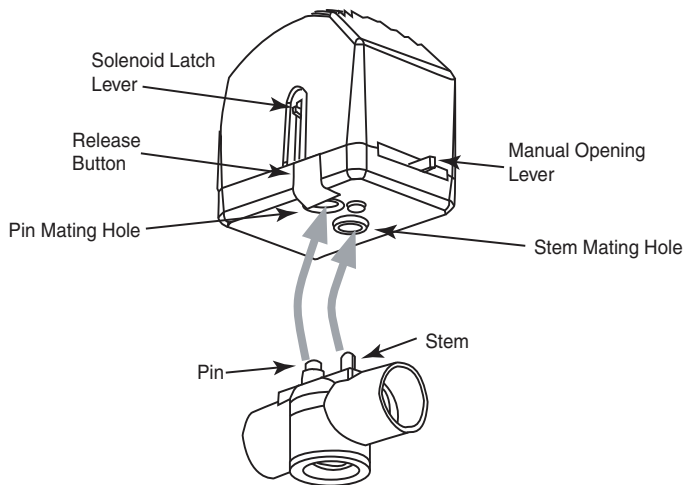

Figure-9 Three-Way Spring Return Valves.
2. With the valve in the mid-position, latch the solenoid by placing the manual solenoid latch lever in the "Up" position. Then, detach the actuator by depressing the release button and pulling it away from the valve body ( Figure-9).
**Note:** When installing threaded valves, the actuator should be detached from the valve body to ease installation. To do so, first slowly move the actuator's manual operating lever (on the front of the actuator) to the middle position. Then latch the solenoid by placing the red manual solenoid latch lever on the side of the actuator to the "Up" position. Finally detach the actuator by depressing the release button and pulling the actuator away from the valve body ( Figure-9).
1. Before reinstalling the actuator, be sure that its manual operating lever is in the mid-position, and that the solenoid is latched. The solenoid is latched when the manual solenoid latch lever is in its "Up" position ( Figure-9).
3. Align the valve body with the actuator to ensure the stem is inserted into the large mating hole on the bottom side of the actuator ( Figure-9).